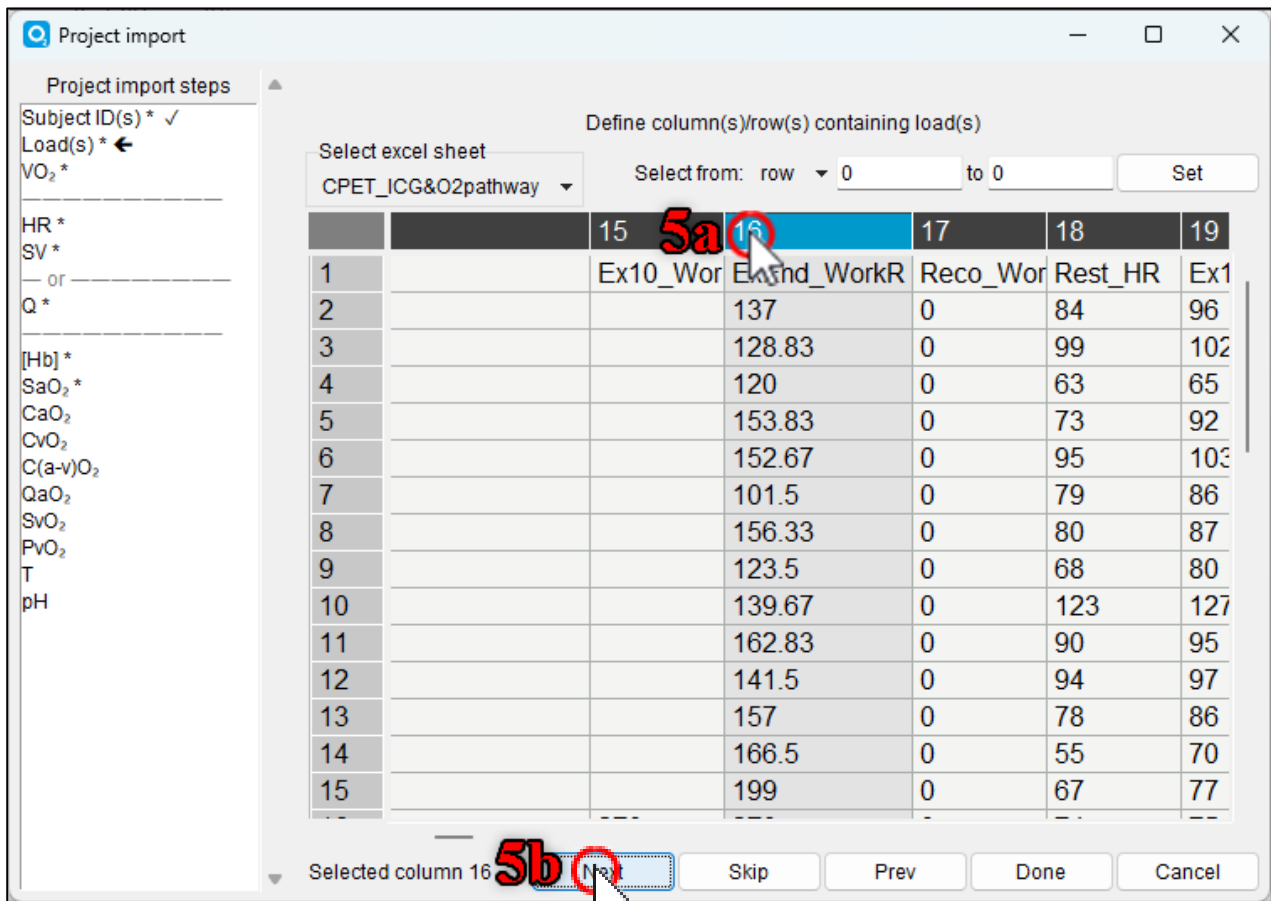

Figure 41
5. Define the loads (Figure 41).